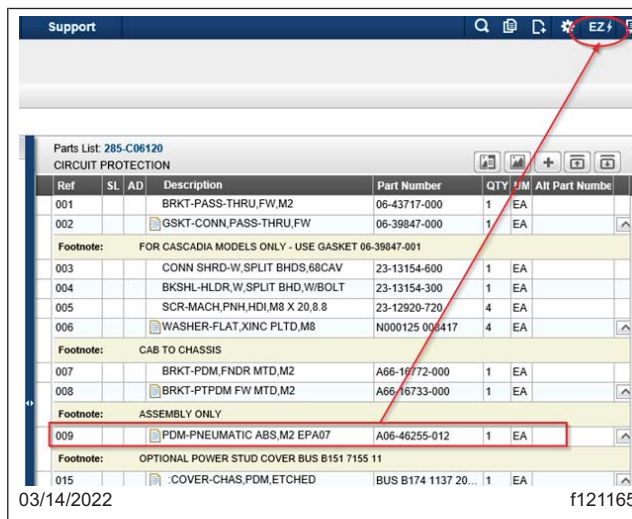

Fig. 3, PartsPro Module 285
- 4.1 In PartsPro, locate the underhood PDM part number in module 285. See **Fig. 3**.